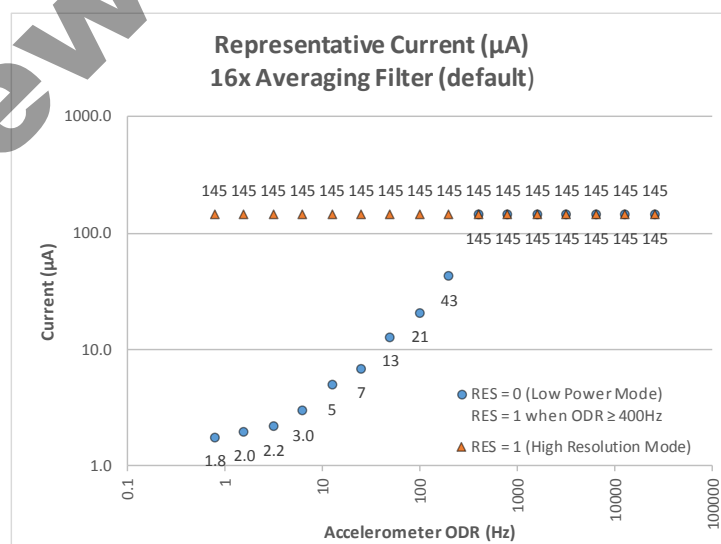

Figure 2: Current as a function of the Output Data Rate (ODR) and Power Mode Settings
1. Current varies with Output Data Rate (ODR) as shown in Figure 2, types and number of enabled digital engines, and the Average Filter Control settings that can be tested using Kionix FlexSet™ Performance Optimization Tool found at <http://www.kionix.com/flexset>.